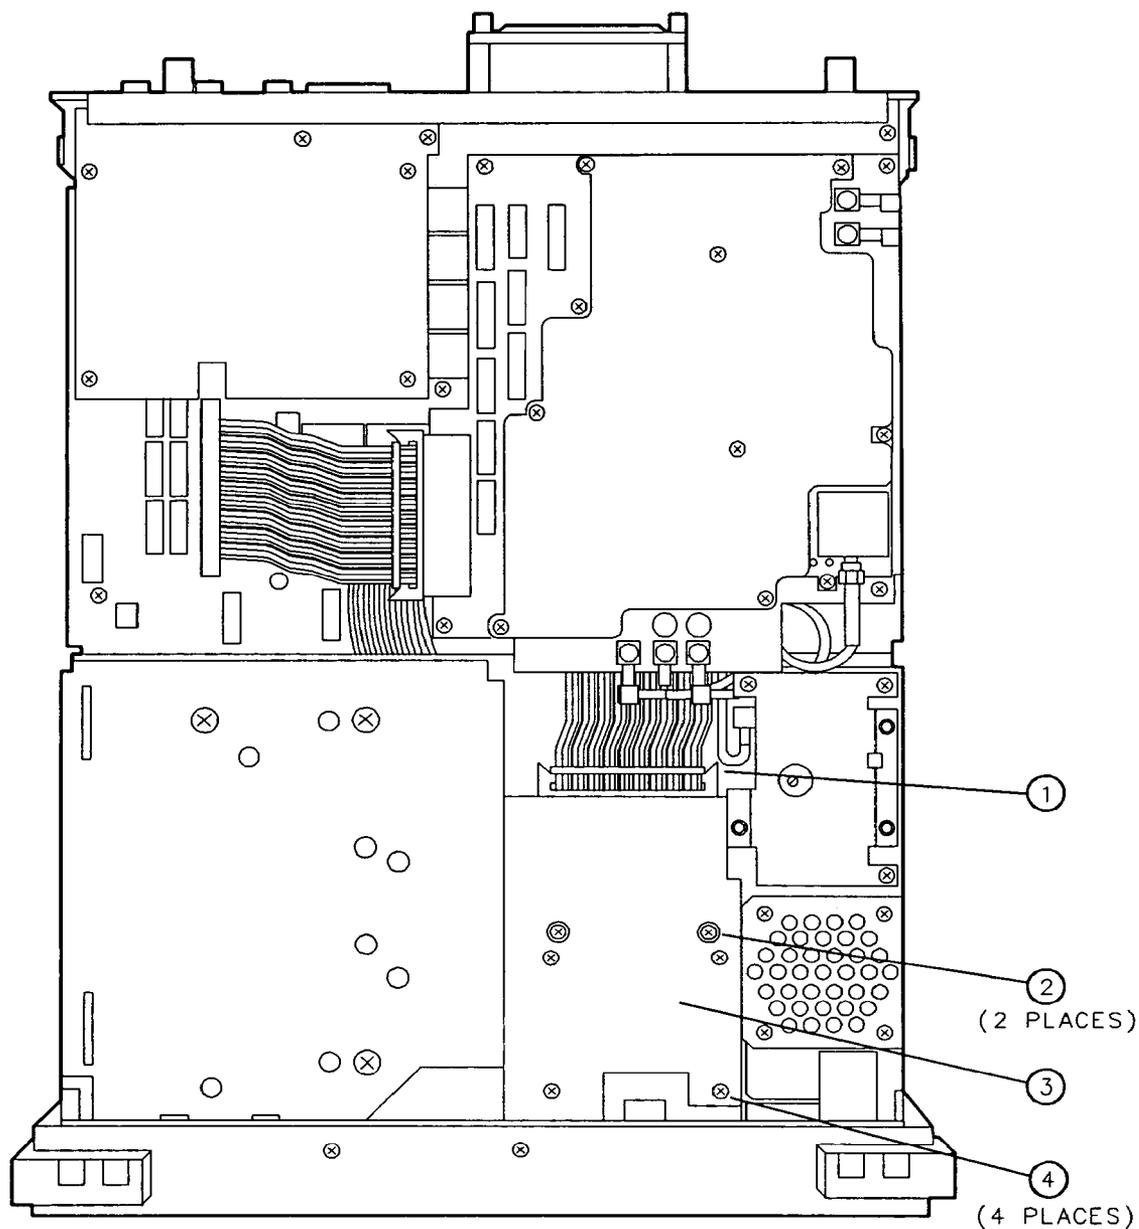

Figure 3-13. A17 Memory Card Reader Replacement
3. Disconnect the W14 ribbon cable (1) from the A17 Memory Card Reader assembly. See Figure 3-13.
4. Remove the two screws (2) securing the A17 assembly to the chassis.